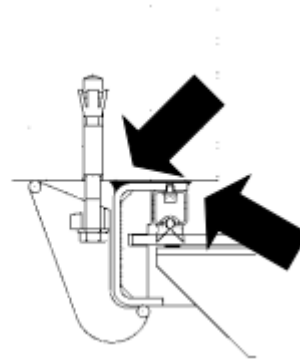
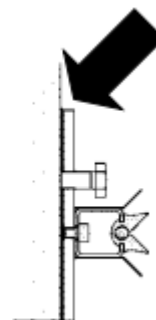

Fig. 5
Fig. 7
- When tightening the bolts, the sealant gets squeezed out on both sides of the frame. Smoothen sealant with finger to a clean grout (Fig. 5).
- For Sluice Gate Valves with transverse seal an additional grout is necessary after tightening between wall and transverse seal acc. Fig. 7.
- After mounting the actuating components (acc. 3.4) the Sluice Gate Valve shall be opened and the sealant on the inside of the frame and transverse seal shall be smoothed to a clean grout acc. Fig. 5 and Fig. 7.